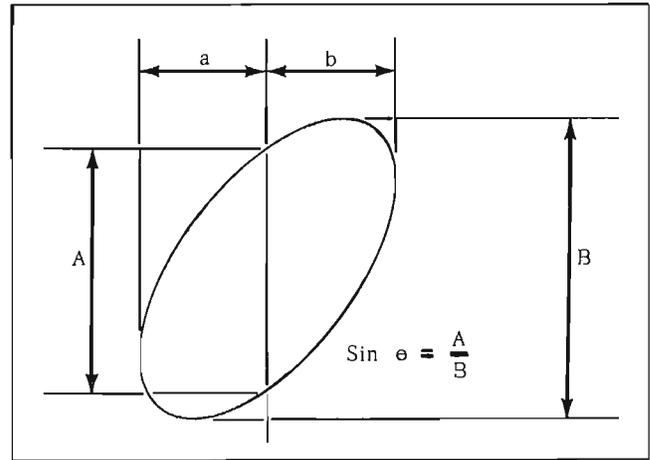

Fig. 3-6. A typical ellipse.
3. Adjust the plug-in unit VOLTS/CM controls until you get a suitable ellipse on the oscilloscope screen. The height of the ellipse is not critical; use any convenient height within the graticule area. Above 10 mc, the size of the ellipse will have to be reduced to prevent distortion due to overloading of the deflection systems. Fig. 3-6 shows the elliptical pattern displayed for a phase angle of 45 degrees. The procedure for measuring the phase angle is independent of the shape of the ellipse.
4. Use the POSITION control of the plug-in unit in the HORIZONTAL channel to center the ellipse about a vertical graticule line. Make the dimensions *a* and *b*, shown in Fig. 3-6, equal to each other. Within reasonable limits, the specific value chosen for the dimensions *a* and *b* does not affect the accuracy of the measurements.
5. Measure the dimensions *A* and *B* as shown in Fig. 3-6.
6. Using the formula shown in Fig. 3-6 calculate the sine of the desired phase angle  $\theta$ . Determine the angle  $\theta$  from your slide rule or a trigonometric table of sines.